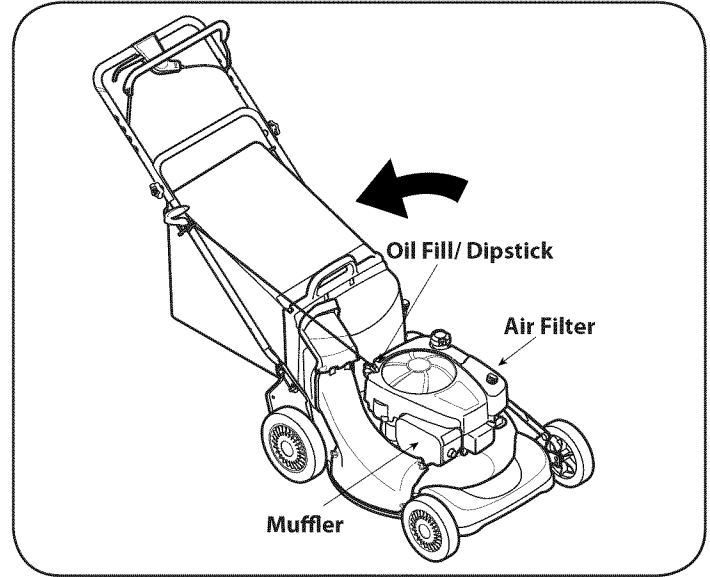

Figure 14
3. Remove the oil fill dipstick and drain the oil into the container by tipping the engine toward the oil filler neck. See Figure 14.
2. Tip mower so that it rests on the housing, keeping the muffler side down. Refer to Figure 14. Hold mower firmly.